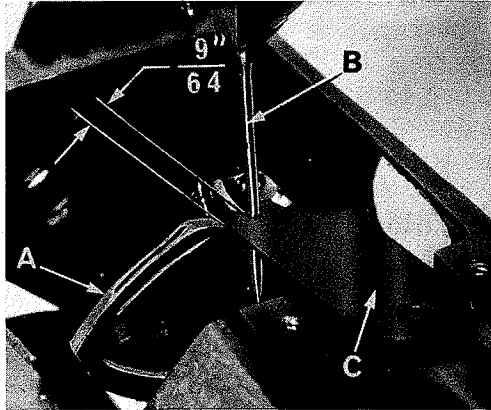
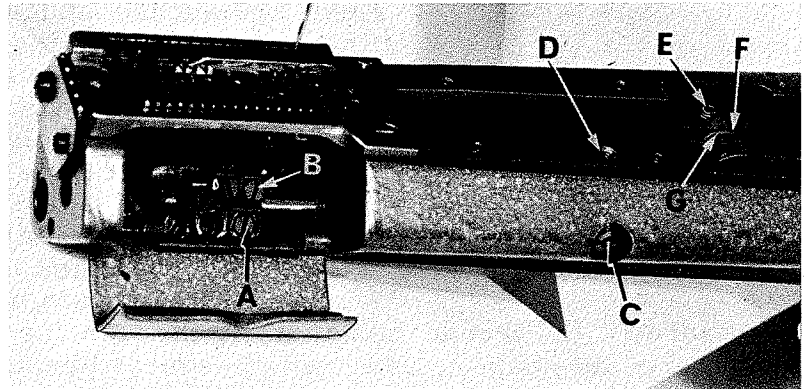
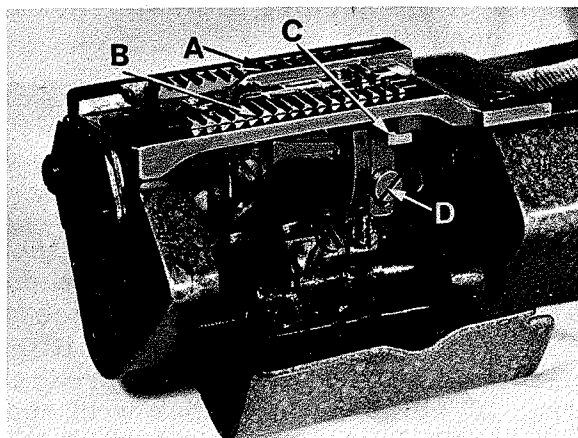

Fig. 5
Fig. 6
Fig. 7
Insert a new set of needles, type and size specified. Always adjust the looper (A, Fig. 5) for the left needle first. Set the looper so that the distance from the center of the needle (B) to the point of the looper (A) is 9/64 inch, when the looper is at its farthest position to the left. Looper gauge (C) No. 21225-9/64 can be used advantageously in making this adjustment. If adjustment is required, loosen screw (A, Fig. 6) in looper holder, permitting movement in either direction to obtain the 9/64 inch dimension as shown in Fig. 5. Retighten screw (A). Rotate handwheel in operating direction to assure that the looper point passes to the rear of the needle as close as possible without contacting, and the descending needle barely brushes the back of the looper. This adjustment can be made by loosening screw (B, Fig. 6) very slightly, so the looper can be moved in the holder, but rigid enough to retain its position while rotating machine through its cycle to attain the required movement, retighten screw. Always check the 9/64 inch looper gauge setting after setting the looper to the back of the needle, and conversely, always check the setting of the looper to the back of the needle after setting the 9/64 inch looper gauge.
Before assembling the main and differential feed dogs, set the feed bar eccentric pin (C, Fig. 6) located in the left side near center of cylinder, so that the slot in the head is in a horizontal position. This assures a neutral position of eccentricity for the purpose of raising or lowering the height of the main and differential feed bars simultaneously. The feed bar pin is retained in position by set screw (D). Assemble the differential feed dog (A, Fig. 7), main feed dog (B) and throat plate. Both the main and differential feed dogs can be individually adjusted to height due to having elongated slots for their attaching screws. The main feed dog at its highest position, should be set to project above the throat plate, slightly more than the depth of its teeth. The differential feed dog may then be leveled with the main feed dog. Tighten the attaching screws securely.
Should the main feed dog require repositioning due to contact with the throat plate in its forward or rearward travel, loosen set screw (E, Fig. 6) in main feed bar driving
link (F) rotate main feed bar eccentric driving stud (G) as required. Driving stud (G) has a thin hexagon head with cut-outs on two of the flats allowing movement by tapping with a sharp pointed tool when a thin open end wrench is not available. Whenever the main feed bar eccentric driving stud position has been changed, re-check rear needle guard setting, adjustment may be required. Retighten set screw (E). Position main feed dog support (C, Fig. 7) flush against bottom of main feed dog (B), tighten support screw (D) securely.